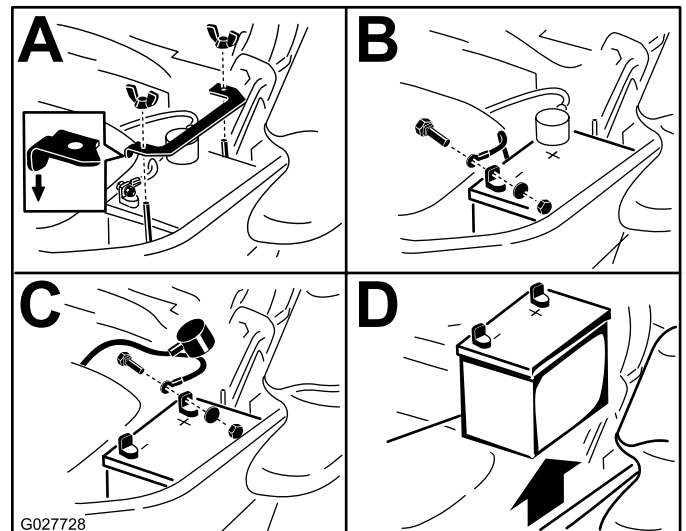

Figure 57
3. First disconnect the negative battery cable (black) from the negative (-)(black) battery terminal (Figure 57).
4. Slide the red terminal boot off the positive (red) battery terminal and remove the positive (+)(red) battery cable (Figure 57).
5. Remove the wing nut securing the battery clamp (Figure 57).
6. Remove the clamp (Figure 57).
1. Position battery in the tray with the terminal posts opposite from the hydraulic tank (Figure 57).
4. Secure the cables with 2 bolts, 2 washers, and 2 locknuts (Figure 57).
6. Install the clamp and secure it with the wing nut (Figure 57).